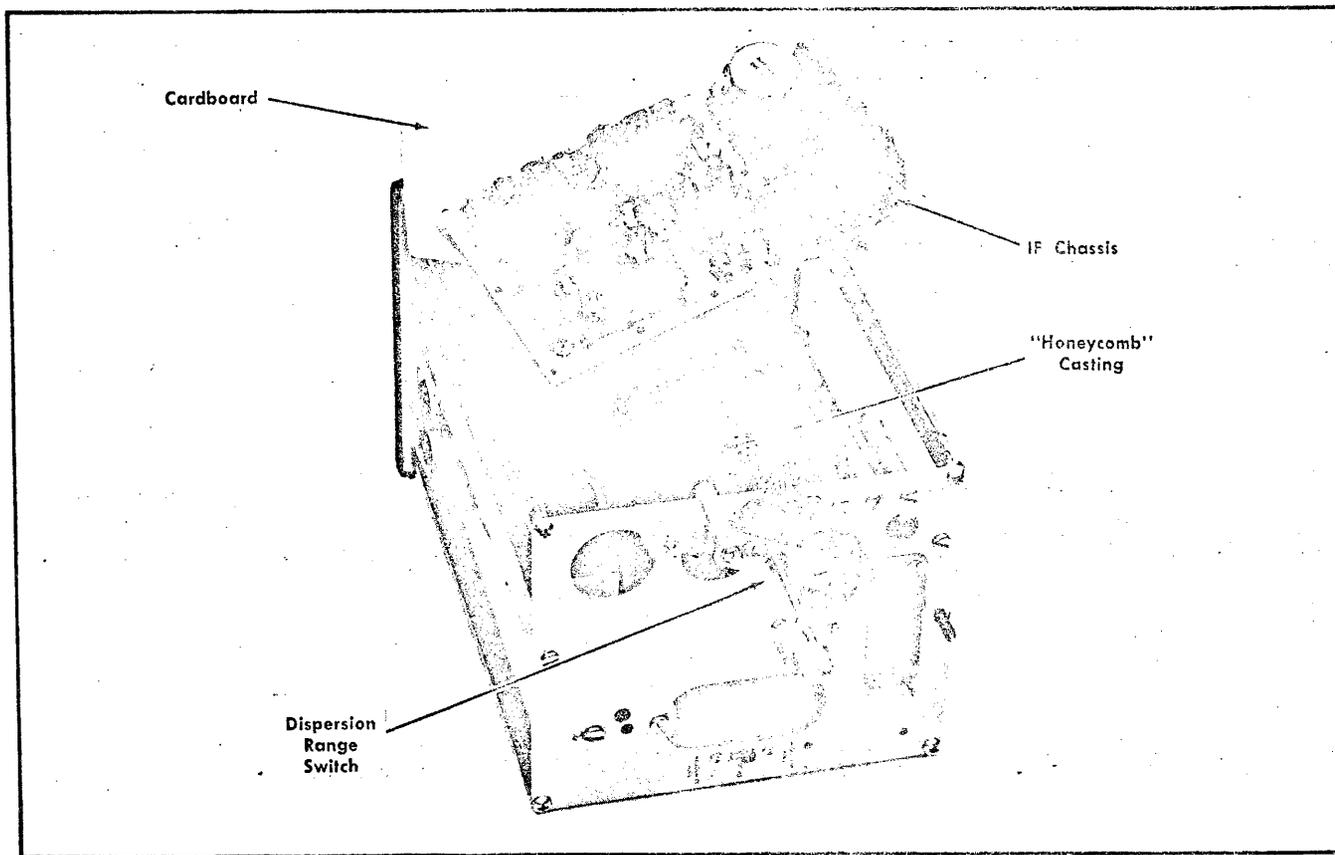

Fig. 4-8. One method of removing the IF chassis for troubleshooting.
4. Swing the chassis up and out, to rest on the instruments spacer bars (see Fig. 4-8). It may be necessary to disconnect the coaxial cable from J147. Do not use force, as some of the parts are critically positioned and should not be moved out of adjustment.